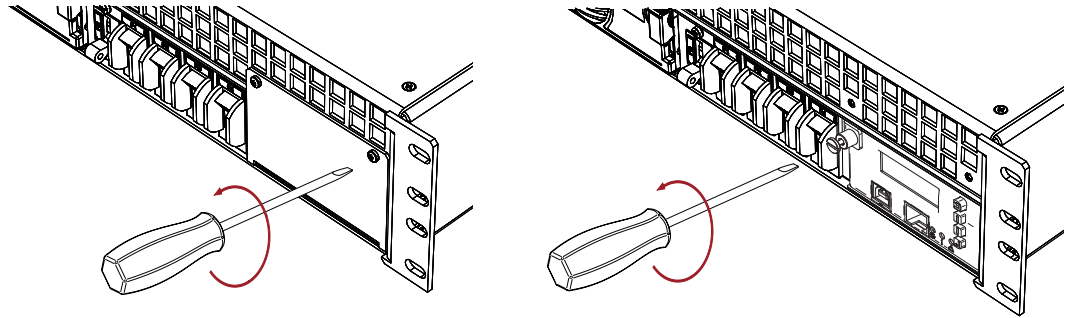

Figure 7-1 Unlocking the Controller / Removing the Blanking Panel
1. Loosen the front screw(s) at the top of the controller or blanking panel using a flat or Pozidrive screwdriver as appropriate, see Figure 7-1.